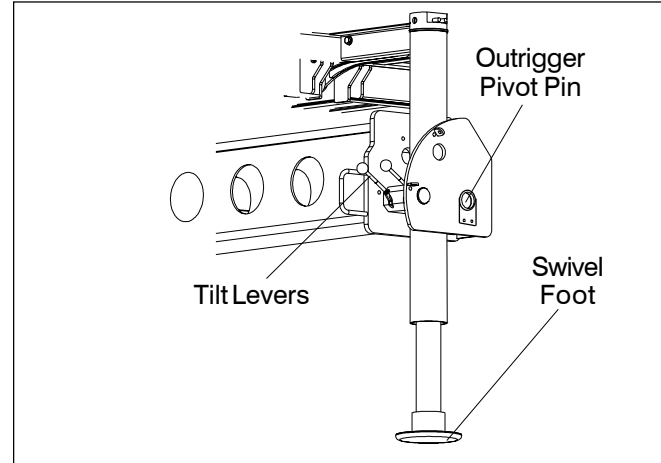

Figure 5.4 — Vertical Outriggers
- Using the outrigger tilt levers, take a firm grip on the top of the outrigger, release the tilt control pins with the lever, position the outriggers to vertical, and engage the pins with the levers. Spring tension will cause the pins to protrude. Make certain pins are full engaged and lock the pins in place with the provided retainer pins (refer to Figure 5.4).